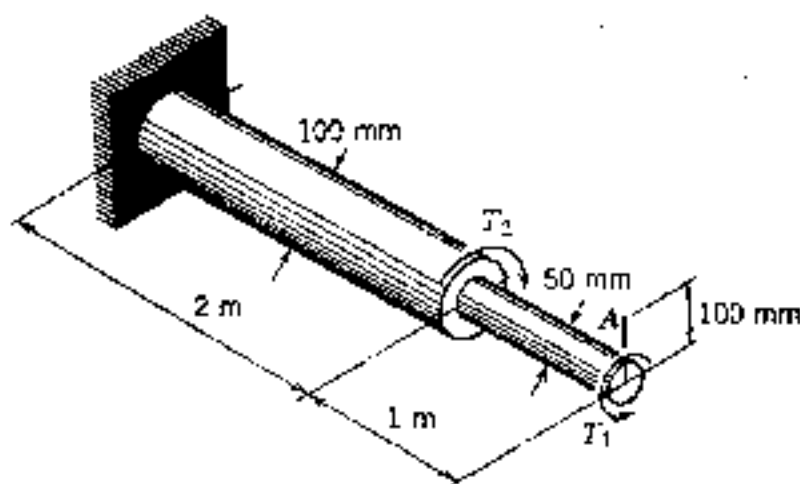

Fig. 4
4. When the two torques, T_1 and T_2 , are applied to the steel ($E=200$ GPa and $G=80$ GPa) shaft of Fig. 4, point A rotates 3 mm in the direction indicated by torque T_1 . A strain gage bonded to the surface of the 50-mm shaft at angle of 45° with the axis of the shaft indicates a strain of 750μ . Determine